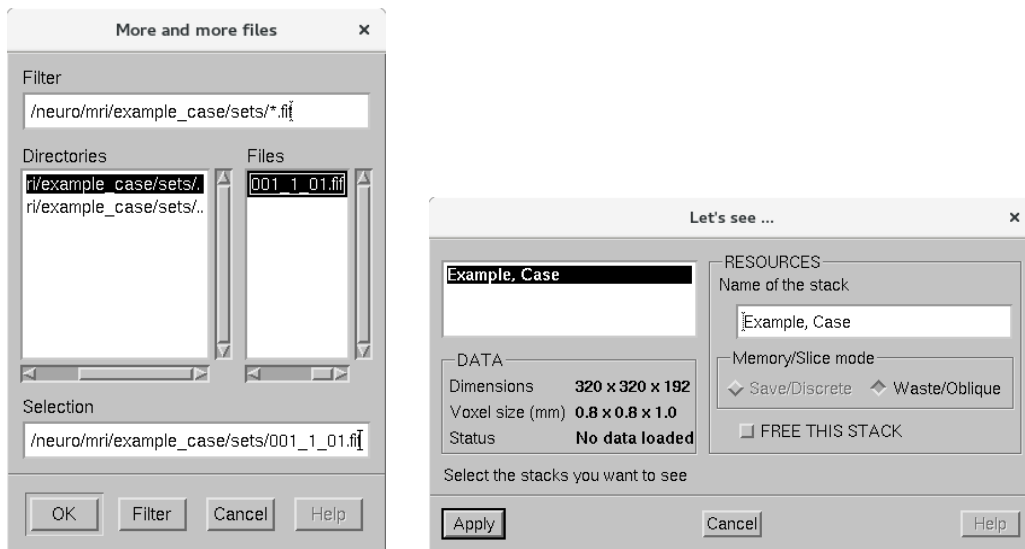

Figure 9: MEG-MRI Integration file loading.
- Click **Apply** on the pop-up window (Figure 9).